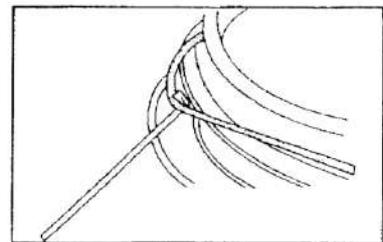

Figure 7
2. Place a pry bar or screwdriver under the o-ring and pull it out from the groove in the rim. Cut the o-ring with a knife to ensure that a new o-ring is used. (See Fig. 7.)